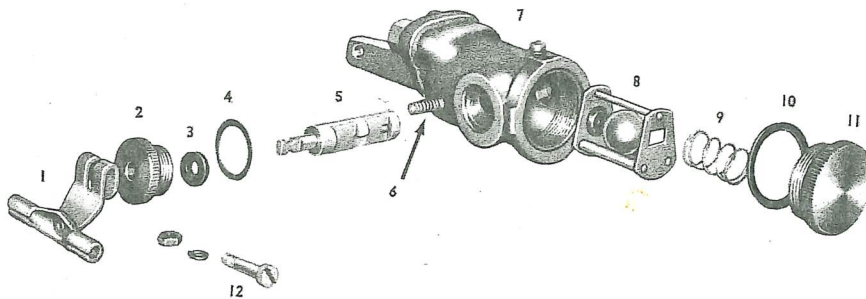

Fig. 22
2. Remove lever clamp screw (12, Fig. 22) and remove the lever from the camshaft (5).
3. Remove the housing end plug (11), gasket (10), and ball cage spring from the housing.
4. Remove the camshaft plug (2) and gasket (4), and take the camshaft end seal (3) out of the plug.
5. Turn the camshaft (5) to disengage the cam from the slot in the ball cage (8) and pull the camshaft out of the housing.
6. Remove the spring (6) from the end of the camshaft. Then remove the ball cage assembly from the chamber.